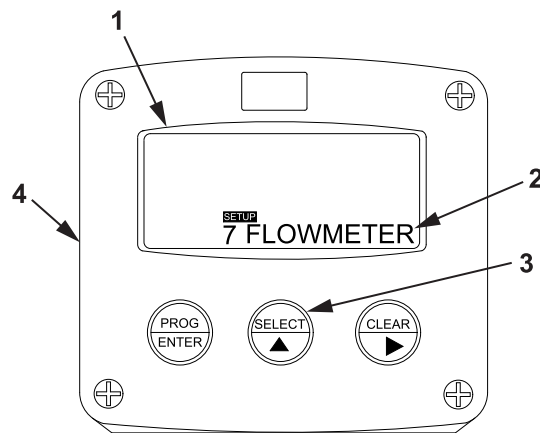

Figure 33. FLOWMETER Display.
- 15. Verify that FLOWMETER (Figure 33, Item 2) appears on the display screen (Figure 33, Item 1).
- 16. Verify default settings for function group FLOWMETER (Figure 33, Item 2) as follows:
- a. Press the SELECT key (Figure 33, Item 3) on the tank volume meter monitor (Figure 33, Item 4).